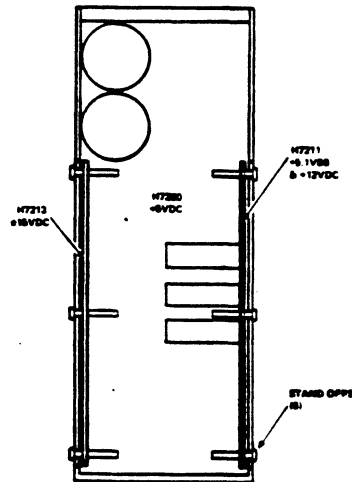

FIGURE 5-16 POWER SUPPLY REGULATOR REMOVAL
13. Loosen the three captive screws holding the top cover of the power supply and remove the cover. See Figure 5-16.